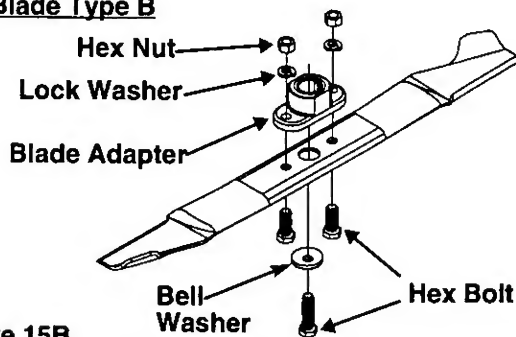

Figure 15B.
- Assemble the blade adapter to the blade. See Figure 15B for proper order of hardware.